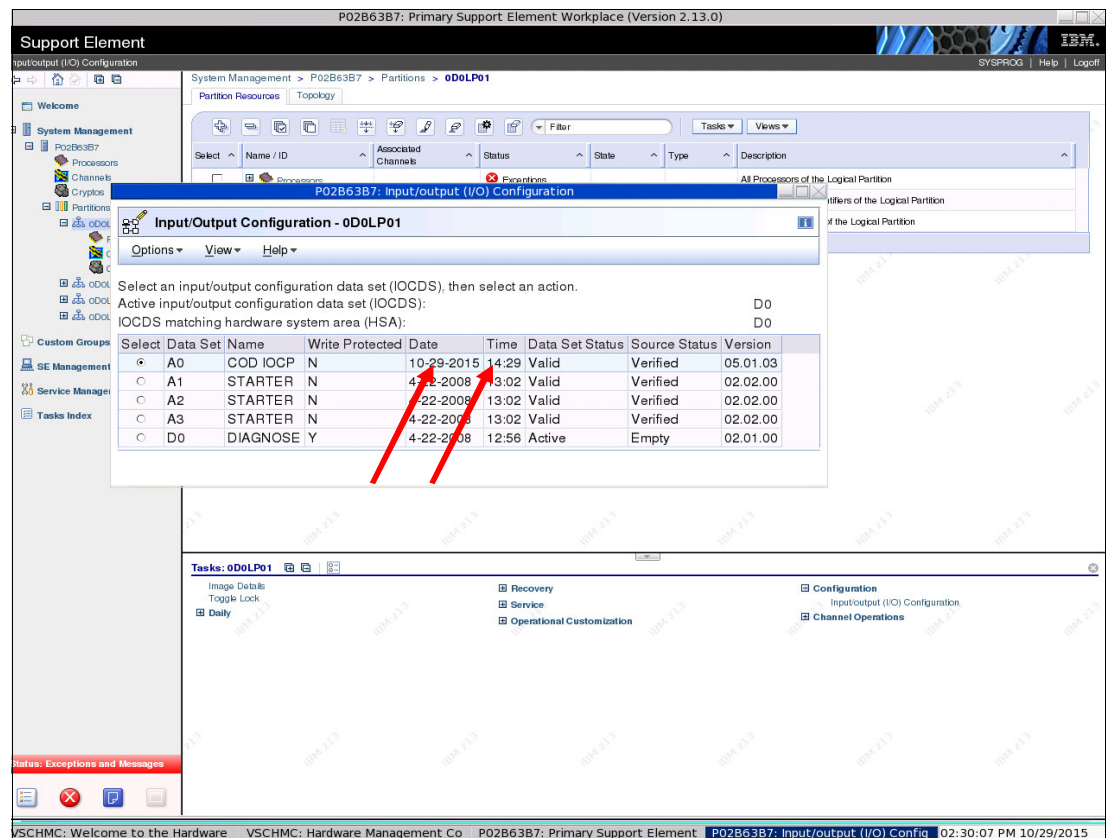

Figure 5-28 Updated status and time stamps after build process
- We select **OK** and then see in the Input/Output Configuration window that the IOCDS slot A0 is updated with a valid and verified status and features updated time stamps, as shown in Figure 5-28.